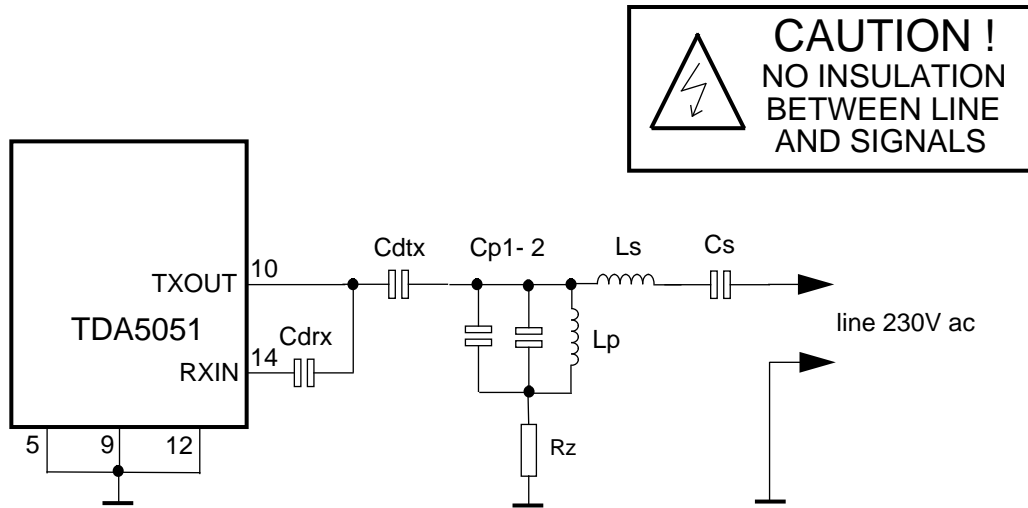

Fig.10 Low cost coupling using a LC bandpass filter
- Minimum input impedance of the filter: if required, the Rz resistor (Fig. 10) can be chosen from **0 to 5.6 Ohms**, in order to limit the minimum input impedance of the filter (EN standard is at a project stage about this point).